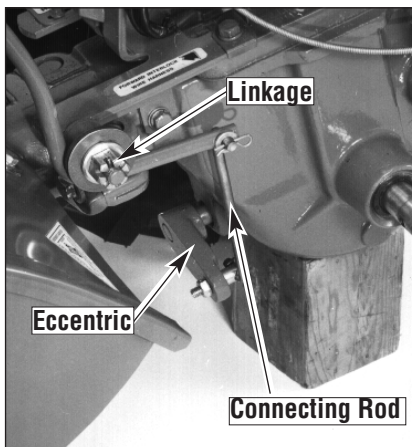

Figure 5-43: Check connecting rod, shifting linkage and eccentric lever.
- Lubricate eccentric lever at rear of power unit transmission (Figure 5-43). If rust is present, use penetrating oil and work eccentric lever back and forth by hand.
- Lubricate linkage to Wheel Speed Lever to eccentric lever (Figure 5-43).
- Connecting rod at end of lever might be backwards, or bent in toward transmission housing and hitting it. Other shifting linkage might be bent. Straighten or replace linkage (Figure 5-43).
- Eccentric shifting pin inside transmission may be broken (rare) or worn. Disconnect linkage from eccentric lever and try moving eccentric lever by hand (Figure 5-43). If lever moves easily, contact the Technical Service Department.